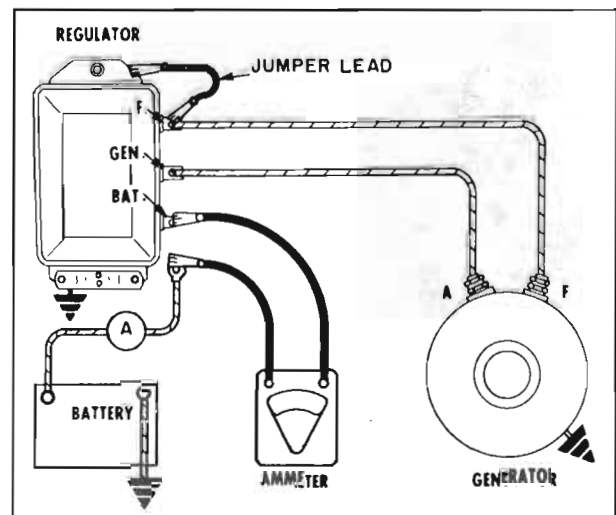

Figure 10-14—Testing Regulator for Oxidized Points
3. Connect jumper lead from regulator "F" terminal to ground on regulator base. See figure 10-14. If ammeter reading increase more than 2 amperes, oxidized contact points are indicated. Regulator should be removed and contact points cleaned before proceeding to any other regulator tests. See paragraph 10-27 for cleaning procedure.